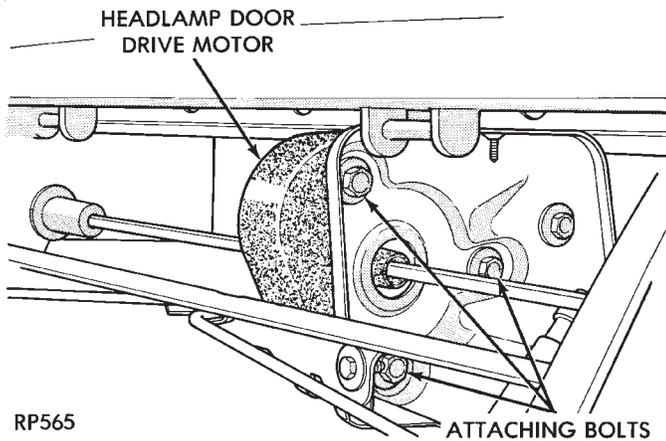

Fig. 9 Torsion Bar and Motor Bolts
- (1) Refer to Headlamp Door Removal operation steps 1 and 2.
- (2) Disconnect the two pin wire connectors and remove three attaching bolts (Fig. 9).